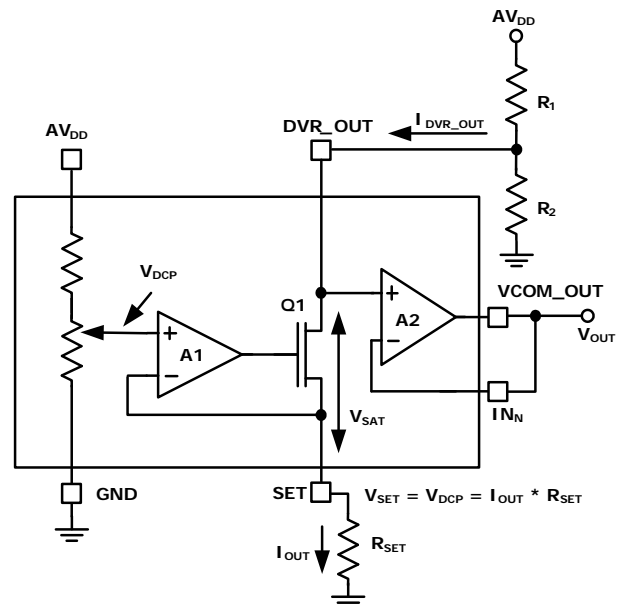

FIGURE 5. CURRENT SINK CIRCUIT
**Electrical Specifications** Test Conditions: VDD = 3.3V, AVDD = 18V, RSET = 5k $\Omega$ , R1 = 10k $\Omega$ , R2 = 10k $\Omega$ , (See Figure 5), VCOM\_OUT pin connected to INN, unless otherwise specified. Typicals are at TA = +25°C. **Boldface limits apply over the operating temperature range, -40°C to +85°C.**
**Electrical Specifications** Test Conditions:  $V_{DD} = 3.3V$ ,  $AV_{DD} = 18V$ ,  $R_{SET} = 5k\Omega$ ,  $R_1 = 10k\Omega$ ,  $R_2 = 10k\Omega$ , (See Figure 5),  $V_{COM\_OUT}$  pin connected to  $IN_N$ , unless otherwise specified. Typical values are at  $T_A = +25^\circ C$ . **Boldface limits apply over the operating temperature range,  $-40^\circ C$  to  $+85^\circ C$ . (Continued)**
The ISL24212 uses a digitally controllable potentiometer (DCP), with 256 steps of resolution (see Figure 4) to change the current drawn at the DVR\_OUT pin, which then changes the voltage created by the  $R_1 - R_2$  resistor divider (see Figure 5). The DVR\_OUT voltage is then buffered by A2 to generate a buffered output voltage at the  $V_{COM\_OUT}$  pin, capable of directly driving the  $V_{COM}$  input of an LCD panel. The amount of current sunk is controlled by the setting of the DCP, which is recalled at power-up from the ISL24212's internal EEPROM. The EEPROM is typically programmed during panel manufacture. As noted in the "Electrical Specifications" on page 4, the ISL24212 requires a minimum  $AV_{DD}$  voltage of 10.8V for EEPROM programming, but will work in normal operation down to 4.5V after the EEPROM has been programmed, with no additional EEPROM writing.
Figure 5 shows the schematic of the DVR\_OUT current sink. The combination of amplifier A1, transistor Q1, and resistor  $R_{SET}$  forms a voltage-controlled current source, with the voltage determined by the DCP setting.
With amplifier A2 in the unity-gain configuration ( $V_{COM\_OUT}$  tied to  $IN_N$  as shown in Figure 5),  $V_{DVR\_OUT} = V_{COM\_OUT} = V_{COM}$ .